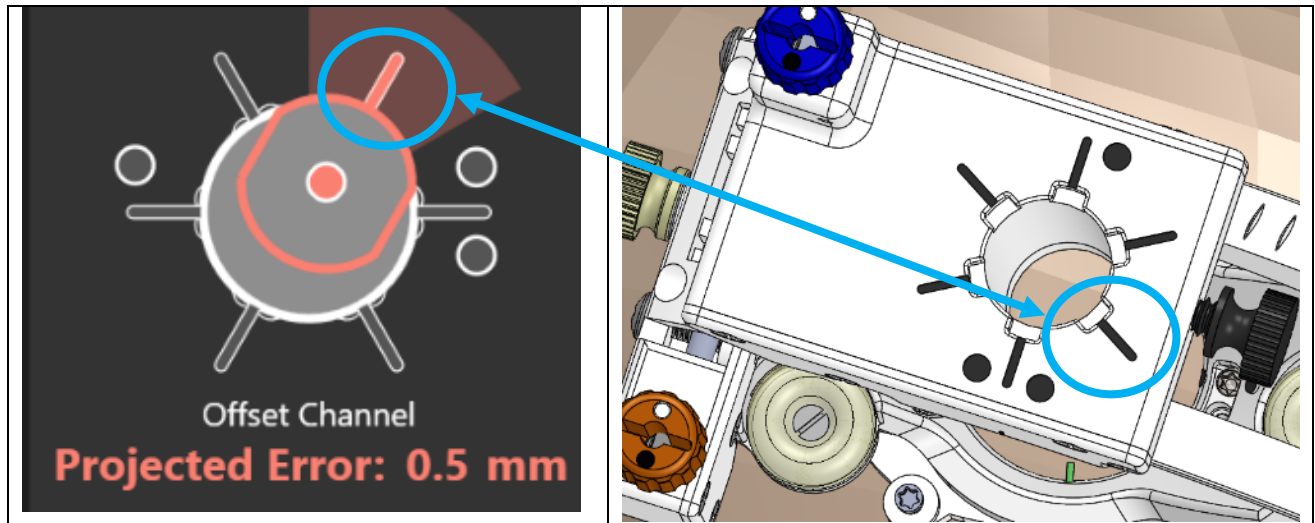
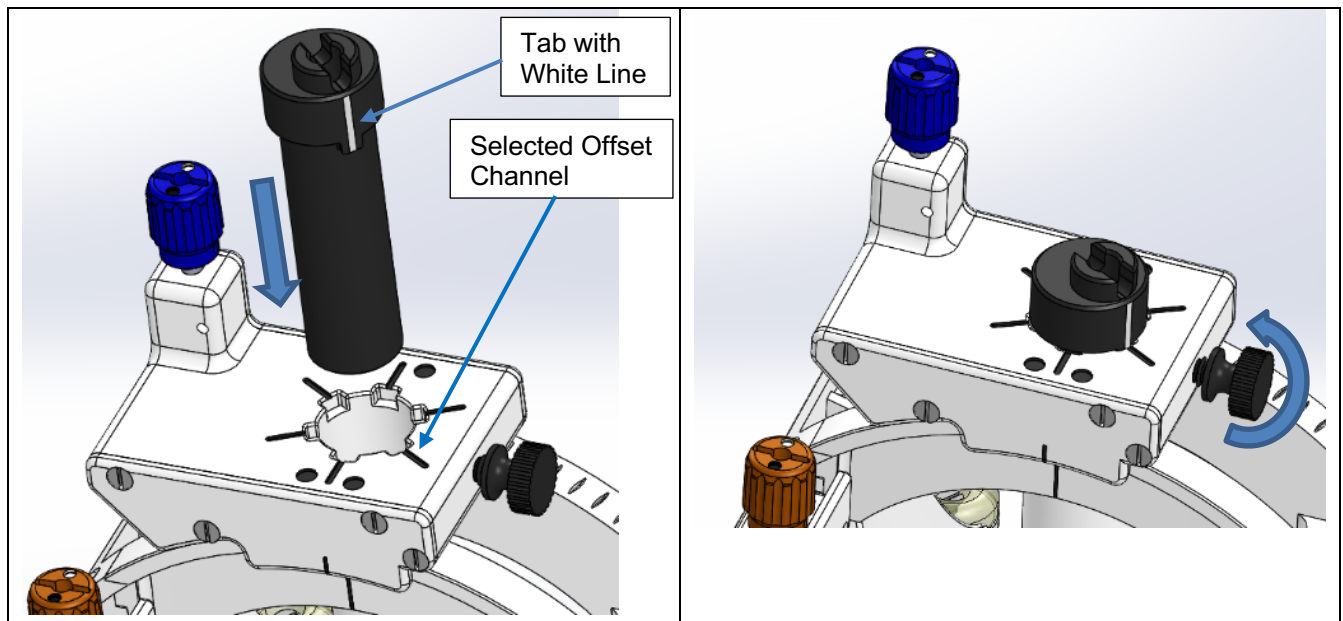

Figure 23: Offset channel selected in the software (Left), and the corresponding position on the SMARTFrame Array tower (Right)
Figure 24: Offset Drill Guide Inserted into the desired offset position on the SMARTFrame Array tower
3. If the OFFSET GUIDE was selected, line up the side tab with the channel position line on the tower. The orientation dots on the tower match those shown in the Software. **See Figure 23 and Figure 24.**
4. Insert the Guide so that the tab clicks into the slot that corresponds to the selected channel. **See Figure 24.**